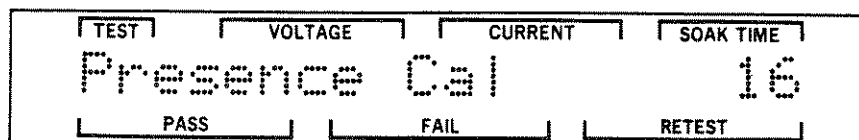

Figure 3-68. Presence Calibration Screen
STEP 8. Press the LEFT pushbutton once to return to the Nominal Capacitance and Charge Rate screen. Press the DOWN pushbutton to display the Presence Calibration screen. Refer to Figure 3-68 for an example of this screen.